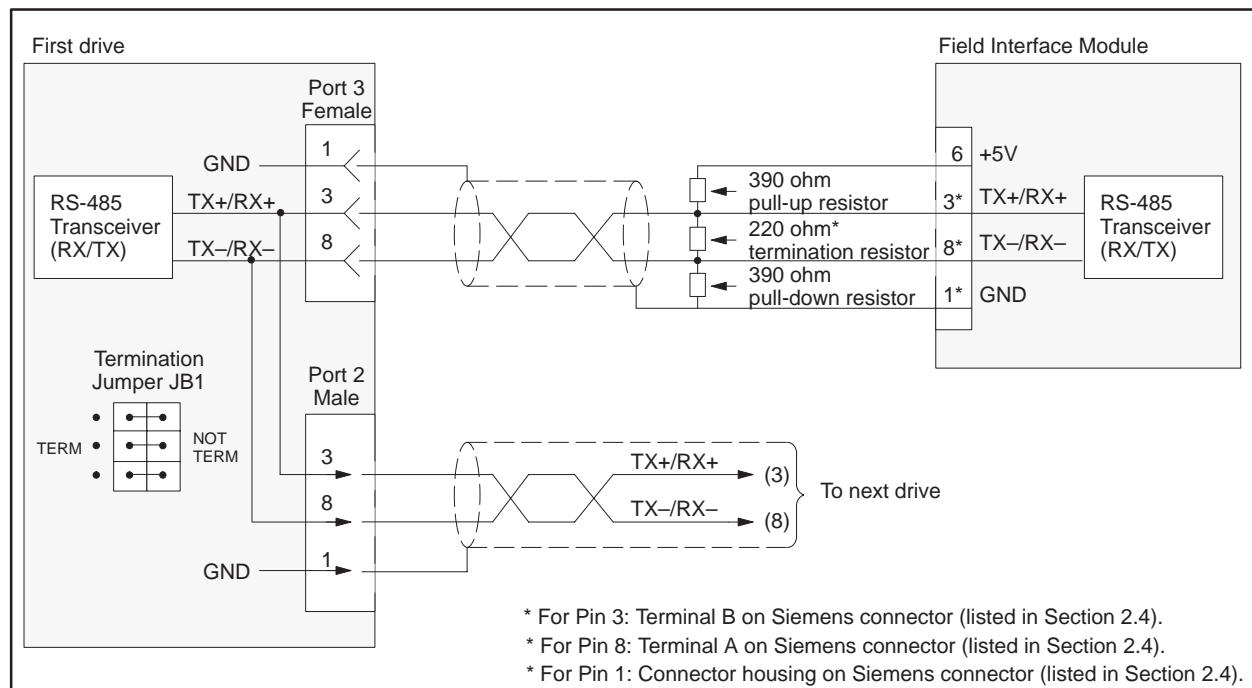
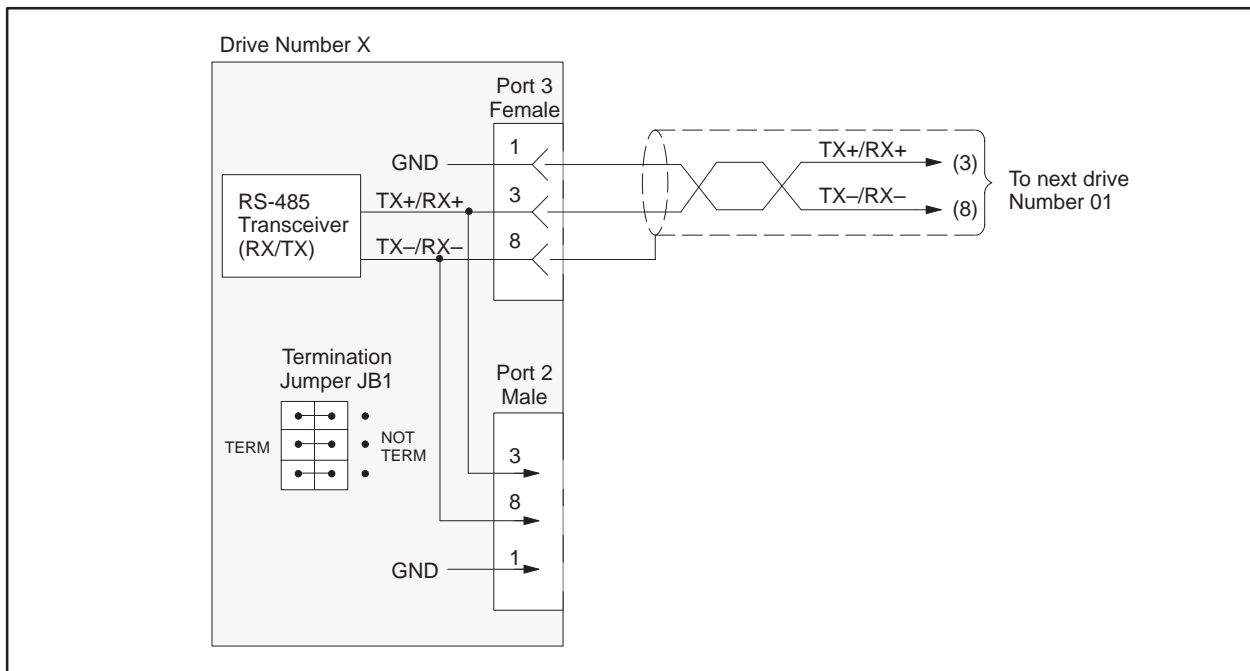

Figure 4-42 SI3 Wiring: All Drives Except End of Bus
Figure 4-43 SI3 Wiring: Drive at End of Bus
- JB1 Figure 4-42 and Figure 4-43 show the correct position of this jumper.
Figure 4-42 shows the wiring for the SI3 (6SE85 Serial Interface Board) for all drives except the end of the bus.
Figure 4-43 shows the wiring for the SI3 (6SE85 Serial Interface Board) for the drive at the end of the bus.